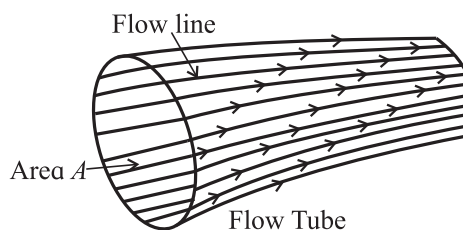

Fig. 2.26: Flow lines and flow tube.
Consider Fig. 2.26 which shows a pipe whose direction and cross sectional area change arbitrarily. The direction of flow of the fluid in pipe is as shown. We assume an ideal fluid to flow through the pipe. We define a few terms used to describe flow of a fluid.
**Flow line:** It is the path of an individual particle in a moving fluid as shown in Fig. 2.26.